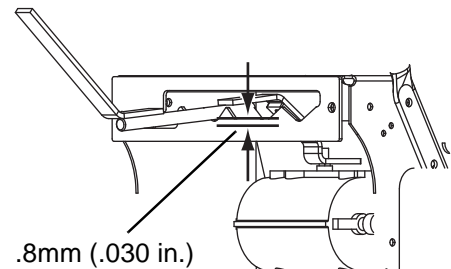

Figure 14
3. Align the shift lever so it is centered in gear position 2 on the detent plate and is .8mm (.030 in.) from the V (Figure 14).